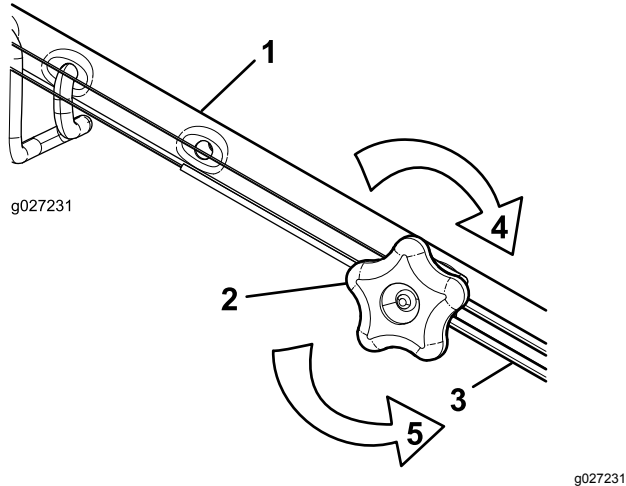

Figure 35
1. Turn the adjustment knob counterclockwise to loosen the cable adjustment (Figure 35).
2. Adjust the tension on the cable (Figure 35) by pulling it back or pushing it forward and holding that position.